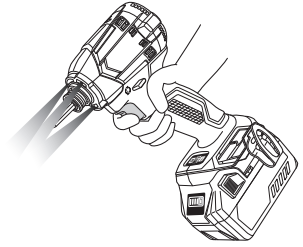

Fig. 14
9. LED light warning signal (Fig. 14)